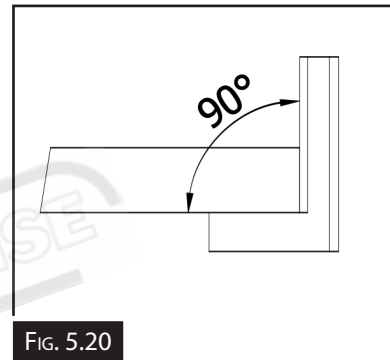

FIG. 5.20
1. Replace with a new blade and check for squareness. The workpiece should be as per Fig. 5.20